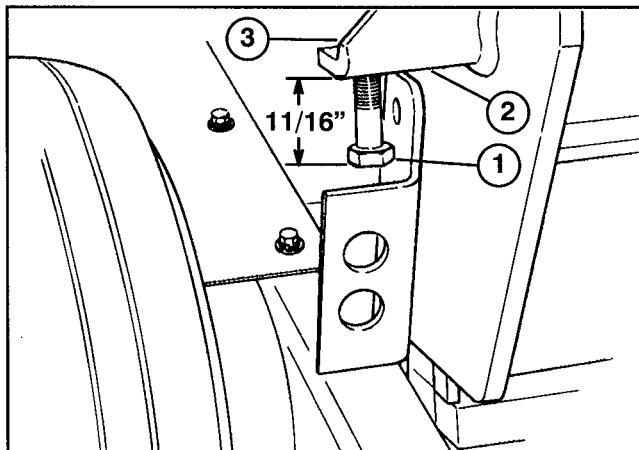

Figure 19
2. Loosen jam nut on top of adjusting bracket (Fig. 19).
3. Thread adjusting screw into bracket to increase coring depth and out to decrease depth (Fig. 19).
4. Best performance and coring depth is achieved when distance from end of screw head to bracket is $11/16$ " (Fig. 19).